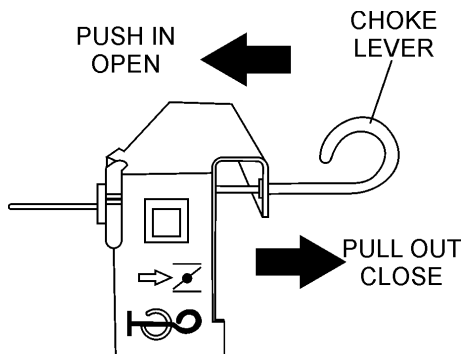

Figure 16. Choke Lever
2. Place the choke lever (Figure 16) in the **CLOSED** position if starting a cold engine.
3. Place the choke lever (Figure 16) in the **OPEN** position if starting a warm engine or the temperature is warm.
6. If the engine has started, slowly return the choke lever (Figure 16) to the **OPEN** position. If the engine has not started repeat steps 1 through 6.